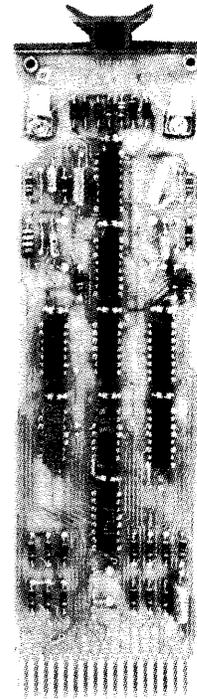

Figure 1-4 External Event Detection Module
*External Event Detection Module (Figure 1-4)*